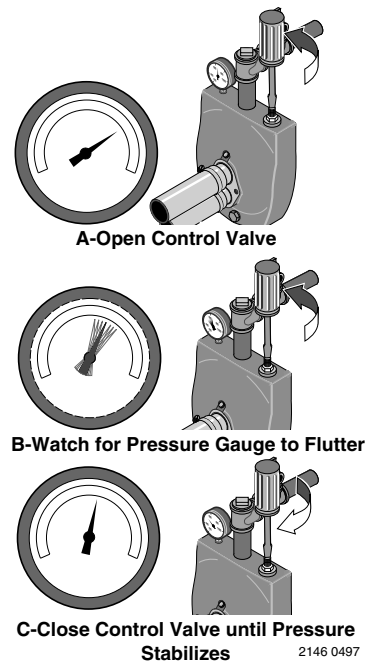

Figure 12: Set Control Valve
Step 5. When pressure has built up and stabilized at about 50 PSI, slowly open the control valve (see Figure 12) and let the pressure drop until the pressure gauge needle starts to flutter. When the needle flutters, close the valve just enough to stop the flutter (see Figure 12). Your pump is now operating at its most efficient point.